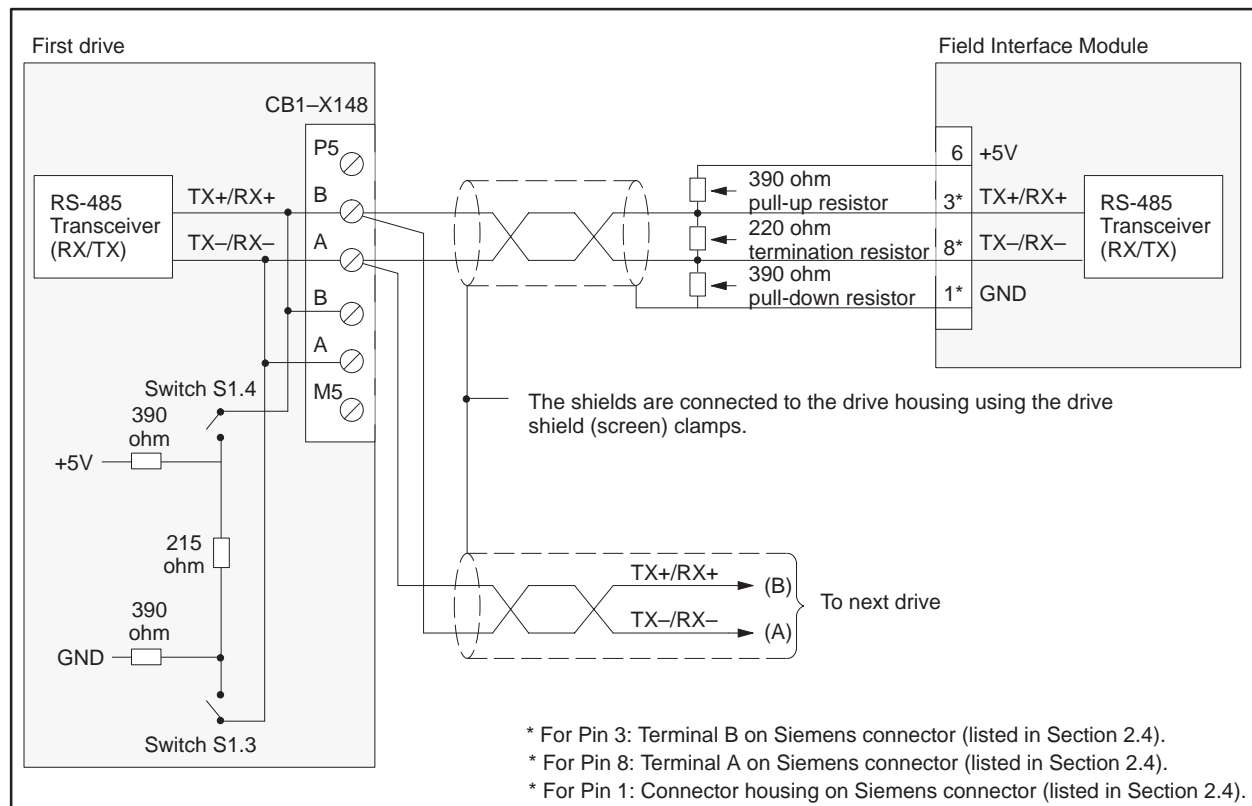
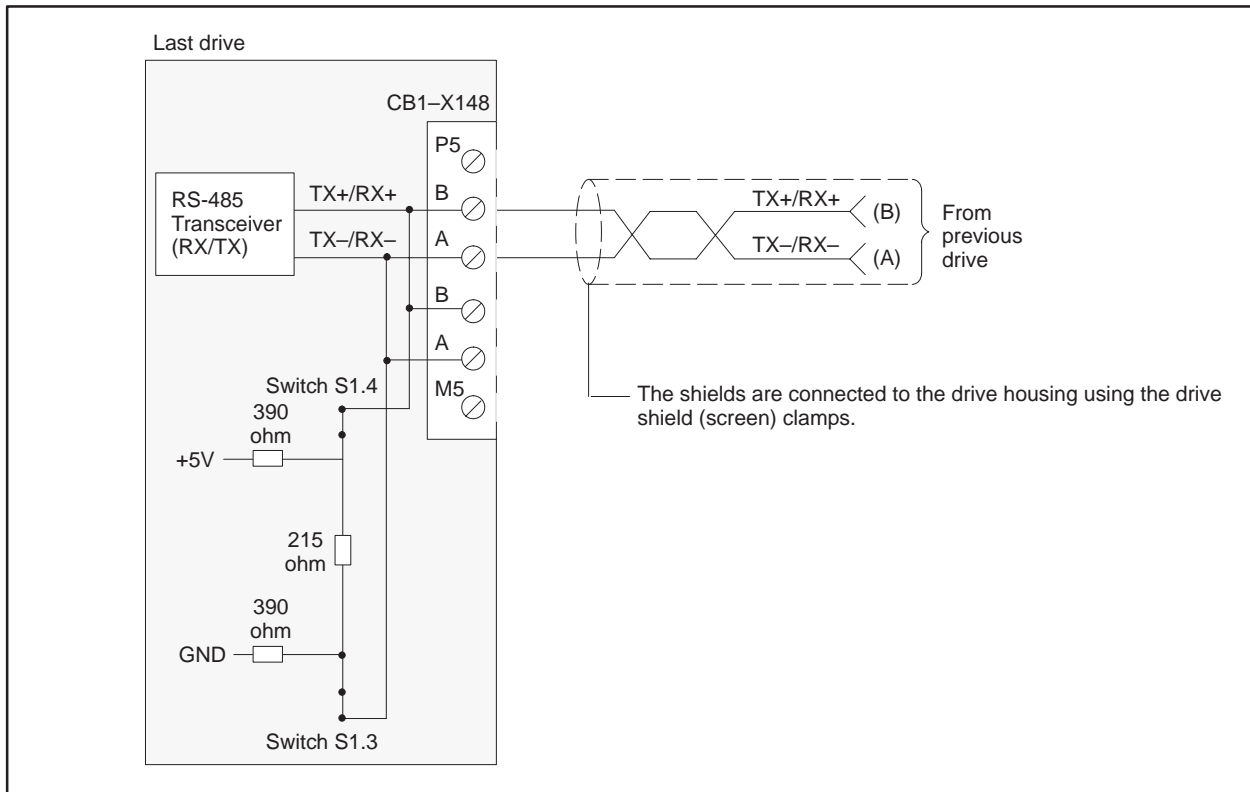

Figure 4-32 CB1 Wiring: All Drives Except at End of Bus
Figure 4-33 CB1 Wiring: Drive At End of Bus
- S1.3      Figure 4-32 and Figure 4-33 show the correct positions of this switch.
- S1.4      Figure 4-32 and Figure 4-33 show the correct positions of this switch.
Figure 4-32 shows the wiring for the 6SE70, using a CB1 card, for all drives except the end of the bus.
Figure 4-33 shows the wiring for the 6SE70, using a CB1 card, for the drive at the end of the bus.